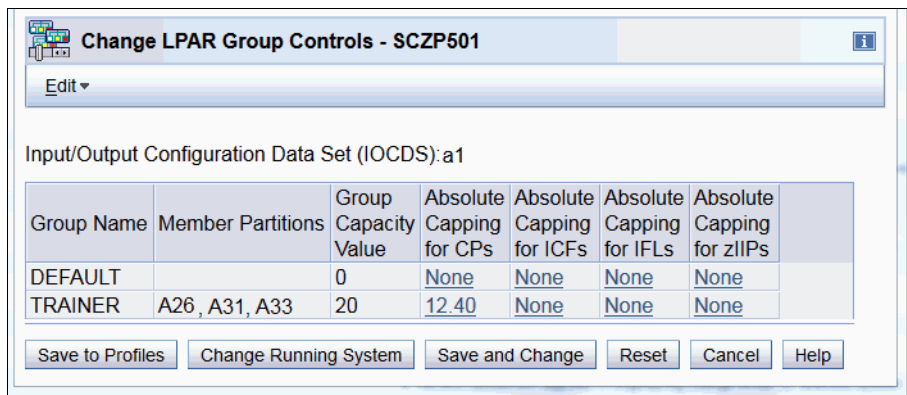

Figure 11-13 Change LPAR Group Controls - Group absolute capping
- ▶ Use Change LPAR Group Controls (same windows that are used for software group defined capacity. Figure 11-13 shows a window on a z13.